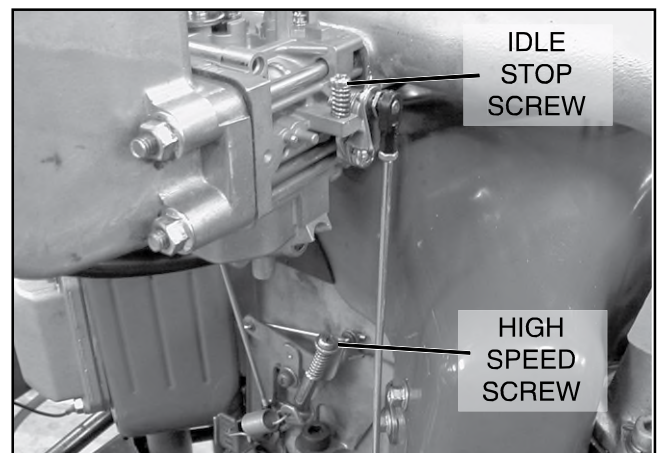

Figure 4-7. Dynamic Governor Adjustment (Earlier Version)
- Move speed control lever to slow speed position and hold throttle lever against idle stop screw (see Figure 4-7).
- Slowly move speed control lever to high-speed position. Do not exceed 3800 RPM (see Figures 4-7 or 4-10 depending on governor version).
- With the speed control in the high-speed position, adjust the high-speed screw to obtain the desired engine speed (see Figures 4-7 or 4-10 depending on governor version).